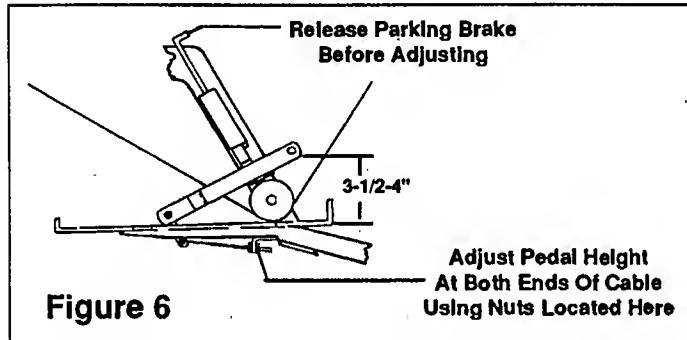

Figure 6
- With parking brake released adjust foot pedal so that it is 3-1/2" - 4" above foot rest (see figure 6). HINT: Use a 2x4 board on edge between pedal and foot rest for approximate positioning. Adjust foot pedal position by adjusting the two cable mounting nuts located on each end of the cable housing.